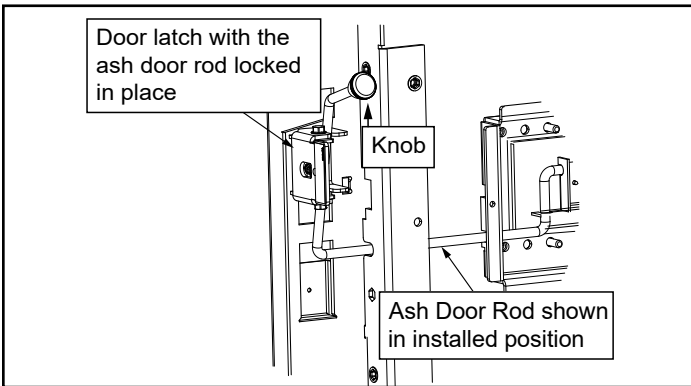

Figure 19.3
10. Add knob to handle rod (**Figure 19.3**).